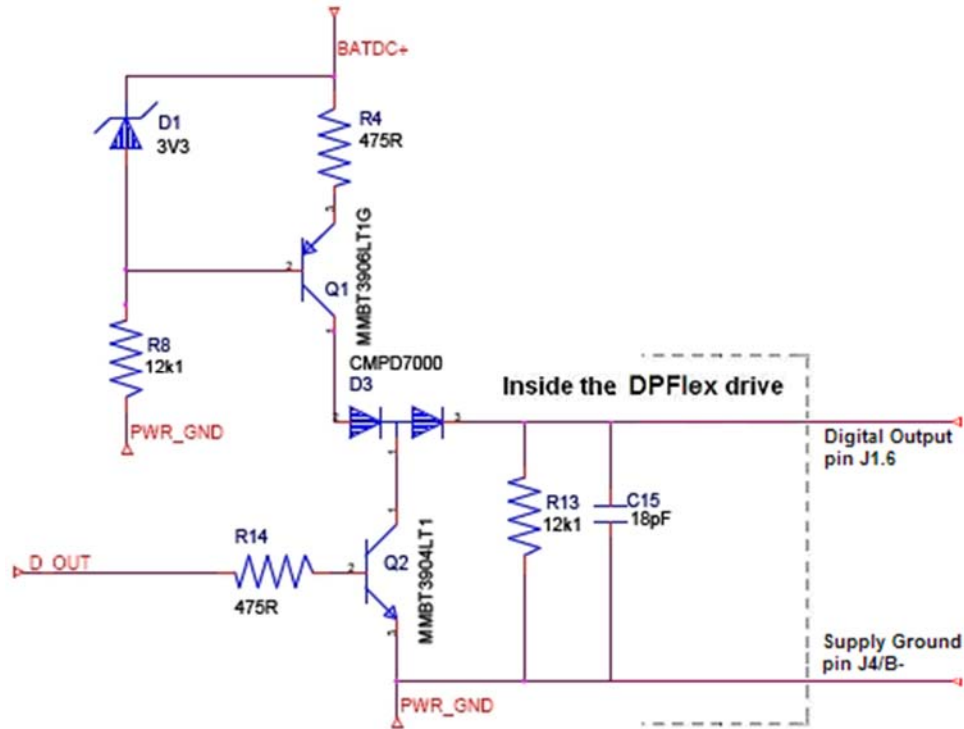

Figure 5: Digital output circuitry generation 1
(3) Refer to schematic shown in Figure 5.